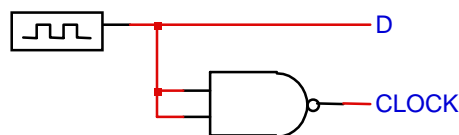

Figure 6: *D* and *CLOCK* inputs for measuring setup time
- c) Connect a 74LS00 NAND gate as an inverter as shown in Figure 6. Connect the function generator output directly to the *D* input and the inverted clock signal to the *CLOCK* input of your D flip-flop. Measure the set-up time given by this configuration on the scope by displaying the *D* and *CLOCK* inputs on the two channels. The setup time is measured from the point the *D* input signal crosses 2.5 V to the point where the rising clock edge crosses 2.5 V (assuming a 5 V power supply voltage).
- d) Check the *Q* output with the *D* and *CLOCK* signals generated as shown in Figure 6.